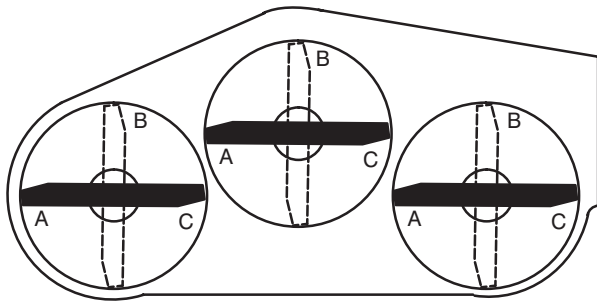
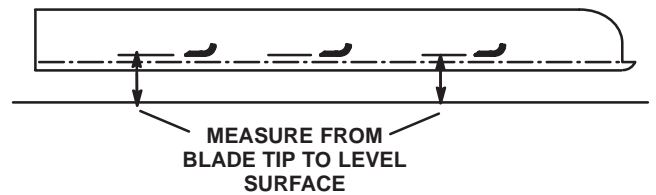

Figure 32
Figure 33
5. Position all 3 blades in the “A” position (Fig. 32) and measure from the level surface to the bottom of the tip end of each blade (Fig. 33).
6. Note the measurement attained at “A”, rotate the blades to the “B” position (Fig. 32), measure the distance of all of the blades to the level surface, and note the dimensions (Fig. 33).
7. Rotate the blades to the “C” position, measure, and note the distance measured (Fig. 32 and 33).